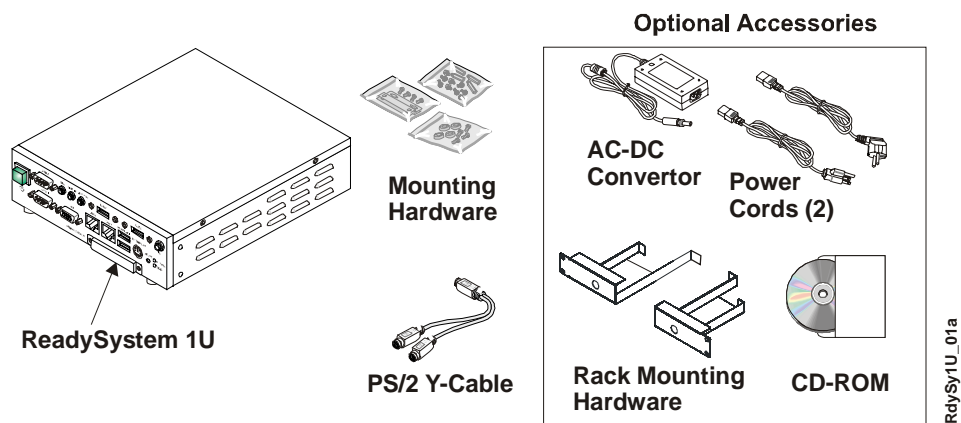

Figure 1-1. ReadySystem 1U Accessories
The Contents List identifies items in the shipping container of the ReadySystem 1U QuickStart Kit. Production quantities of the ReadySystem 1U, except for the first of multiple boxes, may not contain all of the optional items listed for the QuickStart Kit, but all boxes will have the standard items such as the mounting hardware and the PS/2 Y-cable. The optional items, such as the power adapter, power cords, and rack mount kit may be shipped separately. See Figure 1-1.
1) Open shipping box	<ul style="list-style-type: none"> • Locate the ReadySystem 1U Contents List. See Figure 1-1. • Unpack the contents of the shipping box.